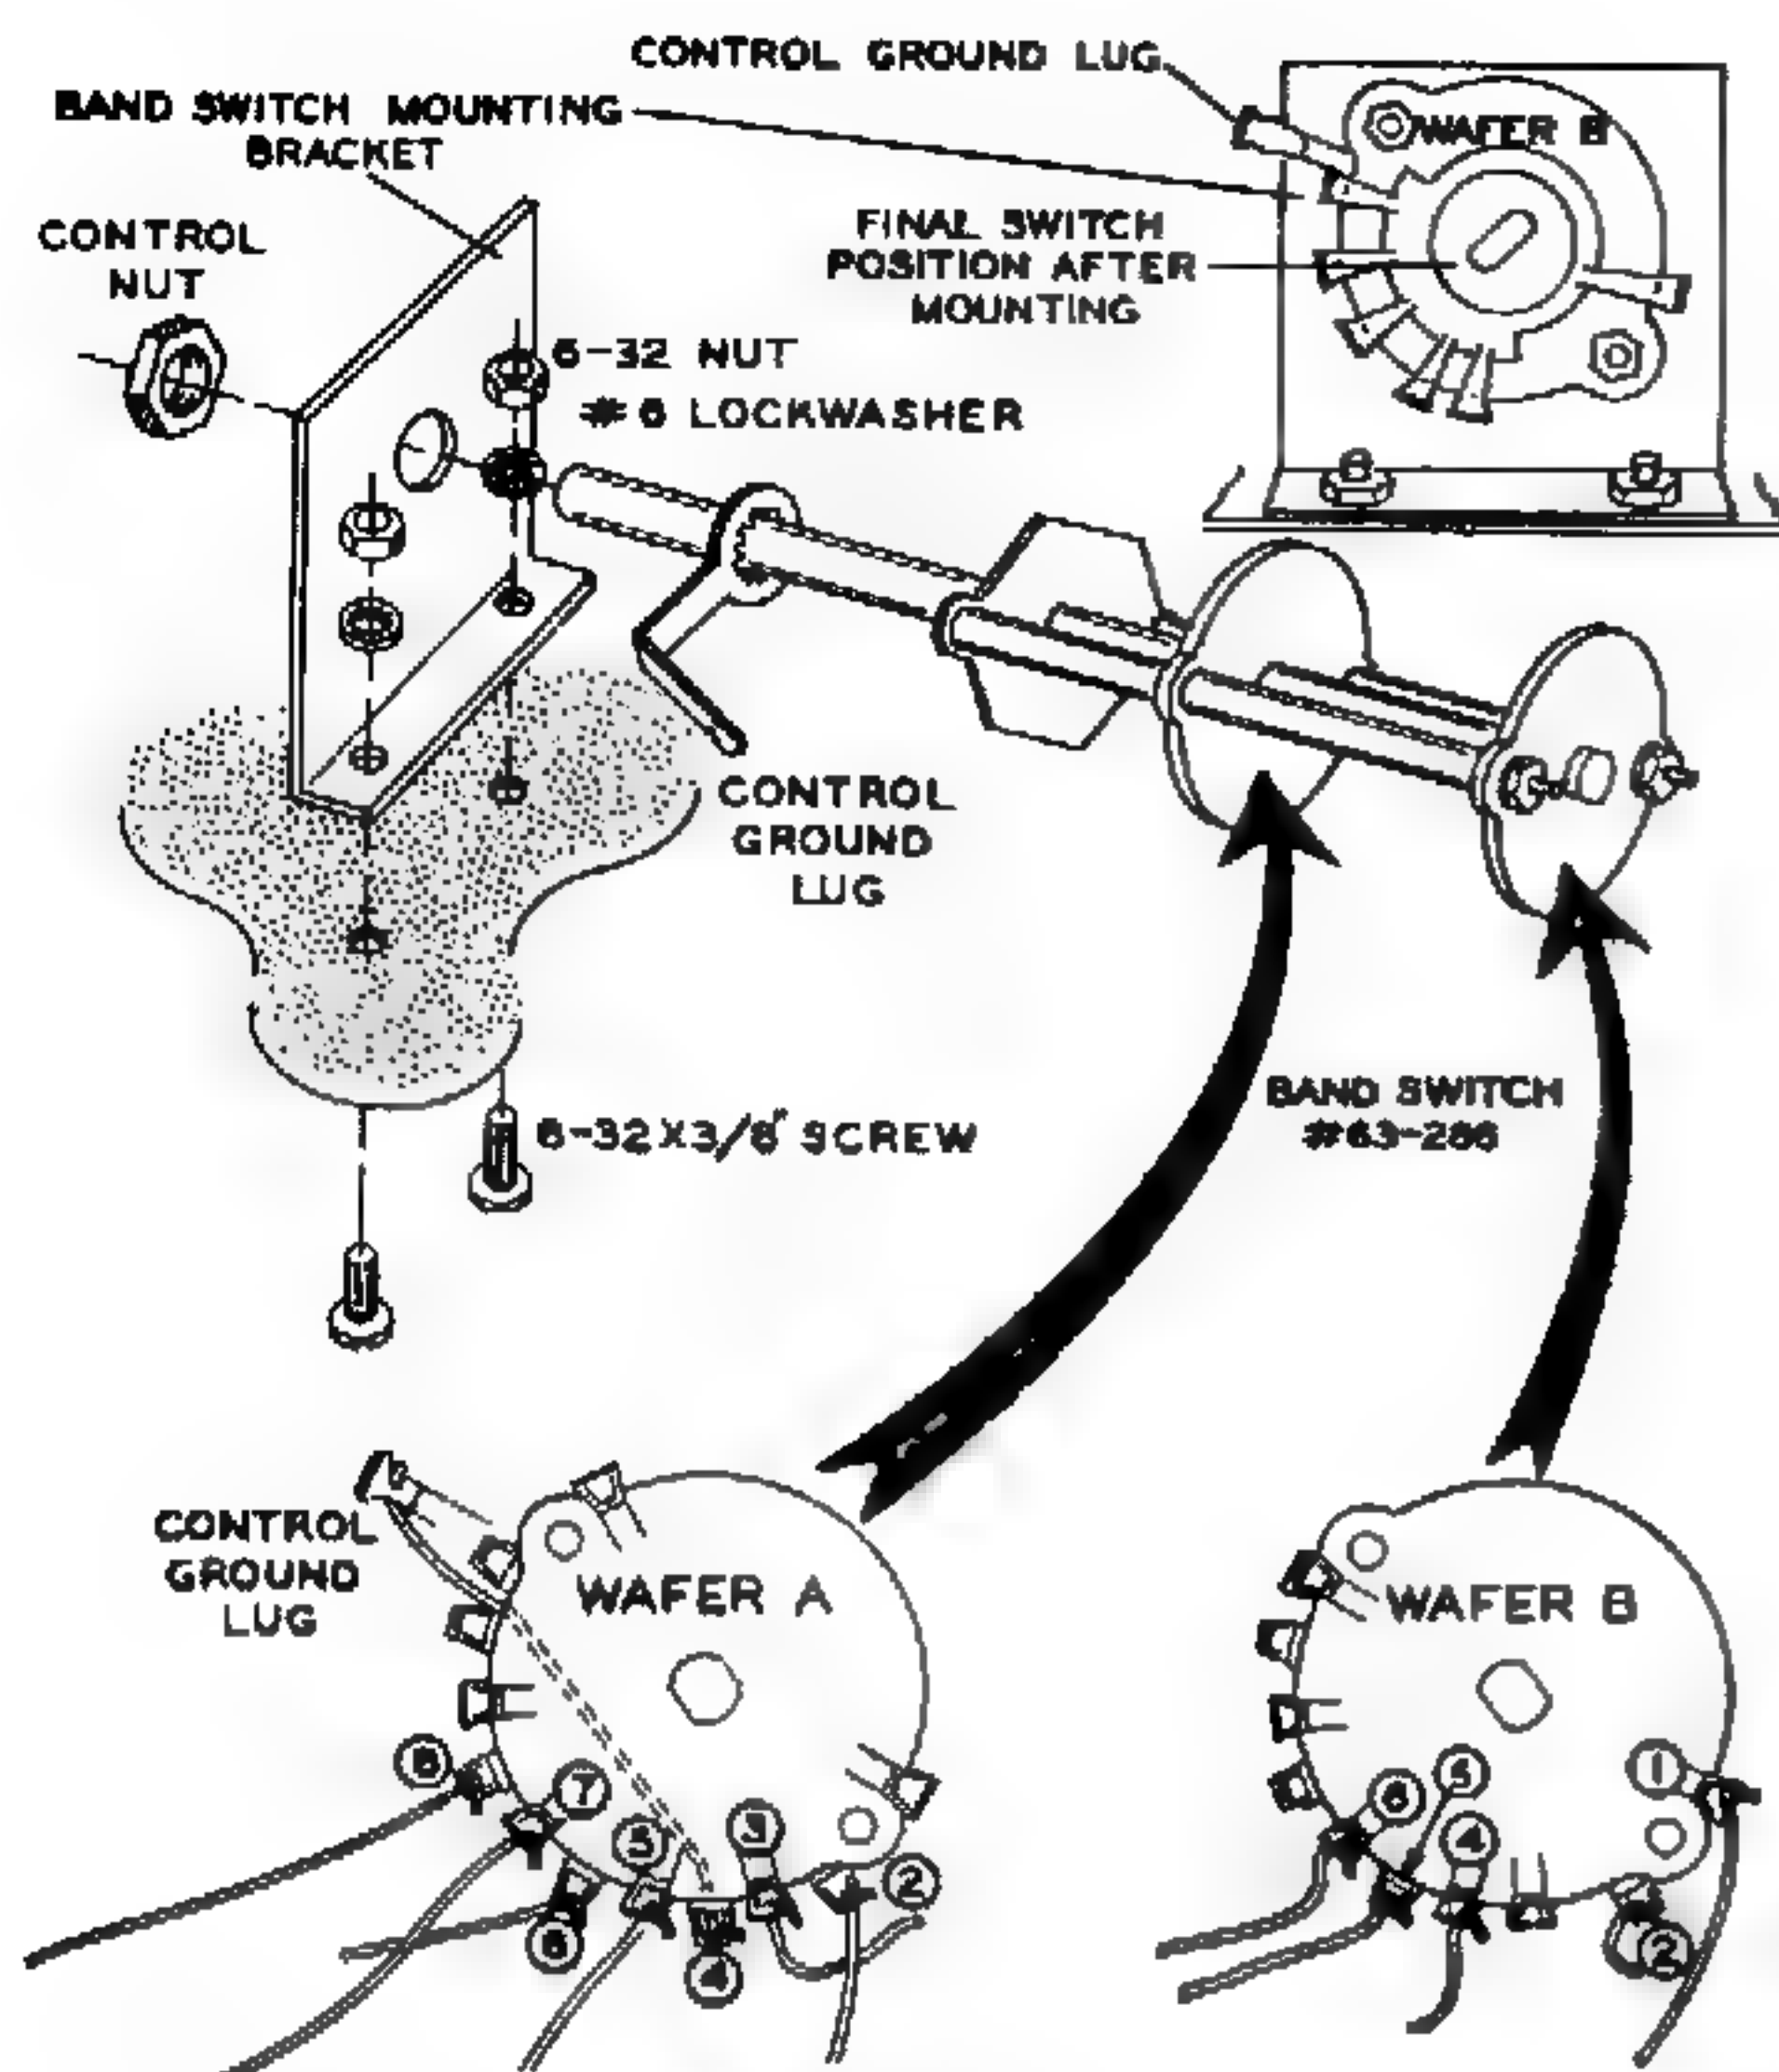

Figure 13
- ( ) Locate the 4-position, 2-section rotary switch (#63-286) and position it as shown in Figure 13.
(✓) Locate the BAND switch mounting bracket, and mount the BAND switch to the bracket, using a control ground lug, and control nut as shown in Figure 13. Position the switch and control ground lug as shown.
(✓) Mount the BAND switch with the mounting bracket to the chassis using two 6-32 x 3/8" screws, #6 lockwashers, and 6-32 nuts as shown in Figure 13.